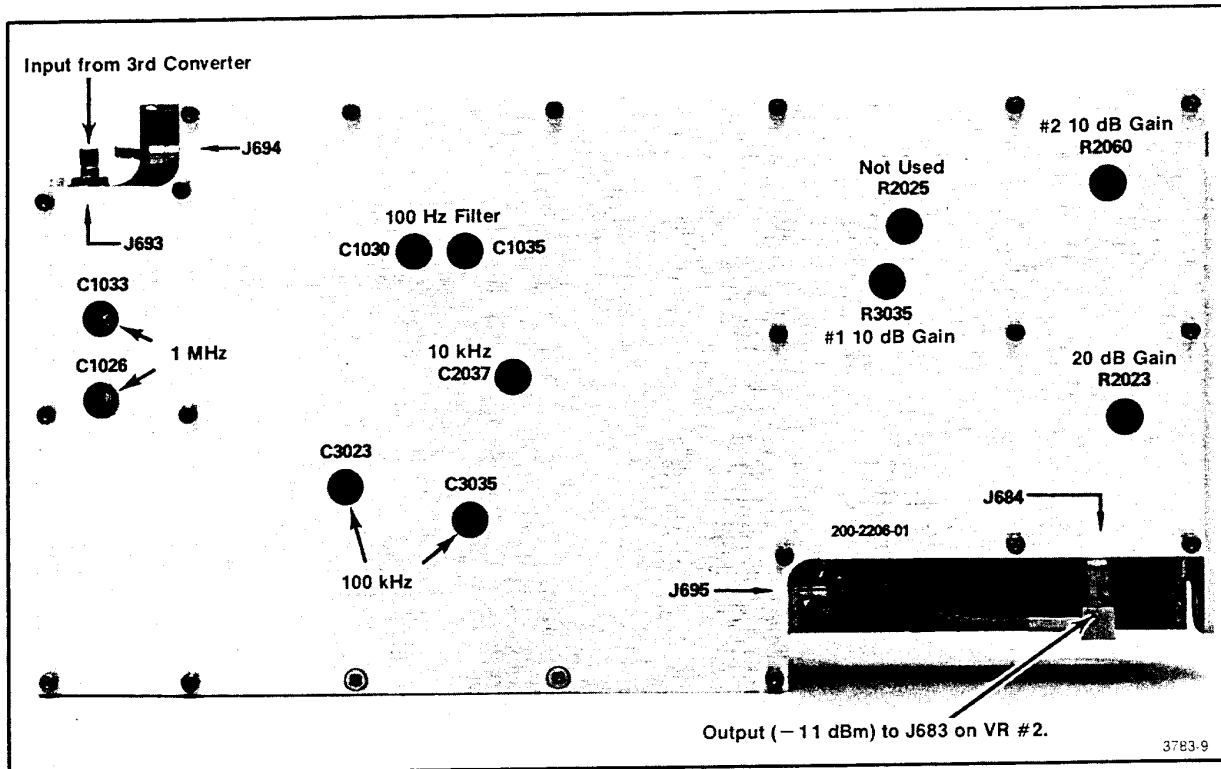

Fig. 3-44. Calibration adjustments on the VR #1 module.
l. Now, switch the FREQ SPAN/DIV to 50 kHz, the RESOLUTION BANDWIDTH to 100 kHz, and adjust the 100 kHz filter with C3023 and C3035 (Fig. 3-44) for filter shape and frequency centering.
n. Switch the RESOLUTION BANDWIDTH to 1 MHz and FREQ SPAN/DIV to 500 kHz; then adjust the 1 MHz filter response and centering with C1033 and C1026 (Fig. 3-44).
p. Adjust the 10 kHz filter with C2037 (Fig. 3-44) for best filter shape.
q. If the instrument has Option 03, switch the RESOLUTION BANDWIDTH to 100 Hz and the FREQ SPAN/DIV to 500 Hz. Adjust the 100 Hz filter with C1030 and C1035 (Fig. 3-44) for amplitude and waveshape.
d. Disconnect P693 from the input to VR#1 module (Fig. 3-44) and apply a 10 MHz, -35 dBm signal from the signal generator through a bnc-to-Seaelectro adapter to J693. Adjust the generator frequency to peak the signal.
i. Adjust the 10 dB Gain R3035 (Fig. 3-44) of VR#1 so the signal amplitude is 7 divisions.
k. Adjust the 20 dB Gain R2023 (Fig. 3-44) for a 7 division signal amplitude.
m. Adjust the 10 dB Gain R2060 (Fig. 3-44) for a 7 division signal amplitude.